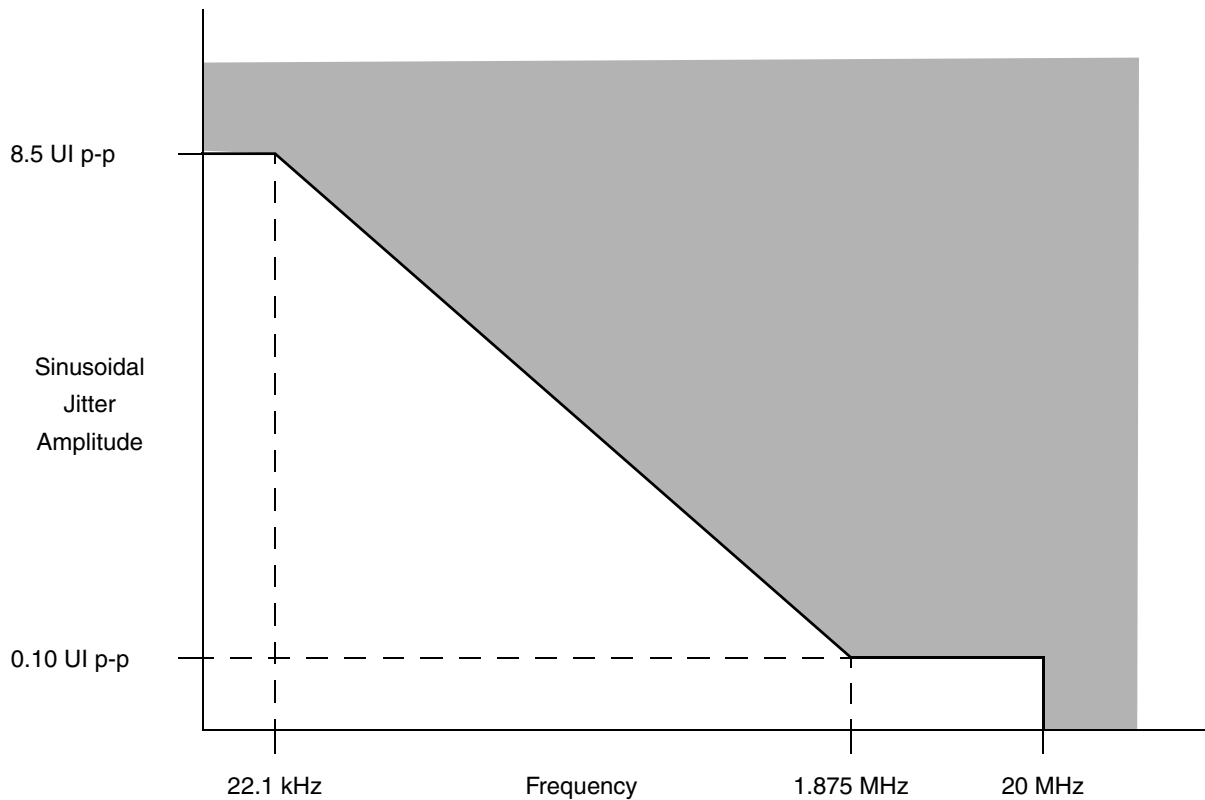

Figure 30. Single Frequency Sinusoidal Jitter Limits
1. See Figure 30 for single frequency sinusoidal jitter limits.
The sinusoidal jitter in the total jitter tolerance may have any amplitude and frequency in the unshaded region of Figure 30.